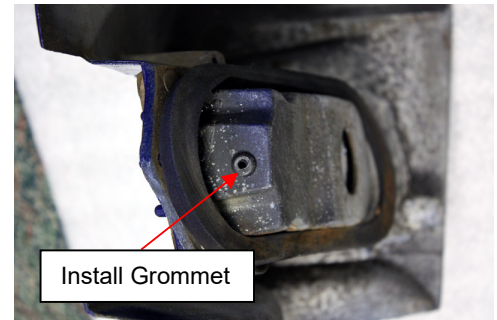

Figure 2
3. OPTIONAL: If sequential patterns are desired, drill a 3/16" diameter hole just below the bulb socket on the tail light housing. (See Figure 2) Then install provided rubber grommet into the drilled hole. One method to simplify installation is to pinch grommet, insert protruding edge into the hole, then use a small flat blade screwdriver to push/work the remaining edge through the hole.